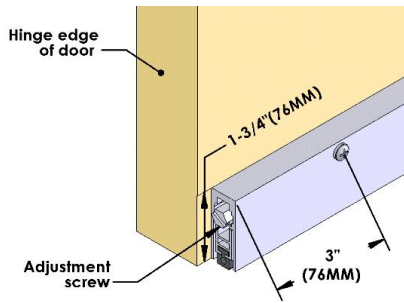

Fig. 1
3. Position the unit flush with the bottom edge of the door and the end with the adjustment screw flush against the frame stop on the hinge edge of the door. Mark, drill pilot holes and install mounting screws. (Fig. 1)